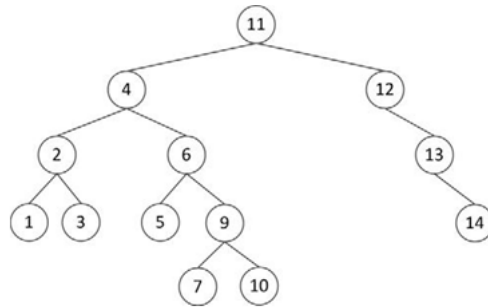

Figure 2
- i. Perform a delete for the key 3 under the assumption that this is a bottom-up splay tree. Show each step
- ii. Perform a split from the tree of Figure 2 (not the resulting tree of part 1)) for the key 6 under the assumption that this is a top-down splay tree.